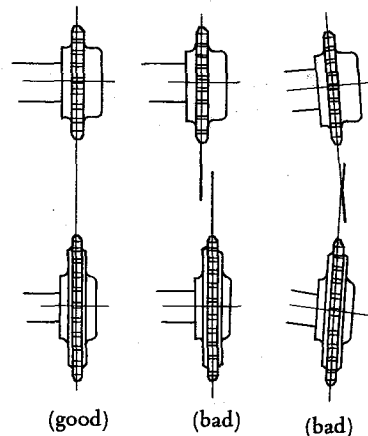

Fig. 3
- (1) In fixing the sprocket, pay as much attention to the side and runout wobbblings as in the case of the coupling flange
- (2) Install the unit in such a manner that both shafts will be brought parallel to each other, the tooth center of one sprocket aligned with that of the other and the chain set perpendicular to the shaft. (Fig. 3)